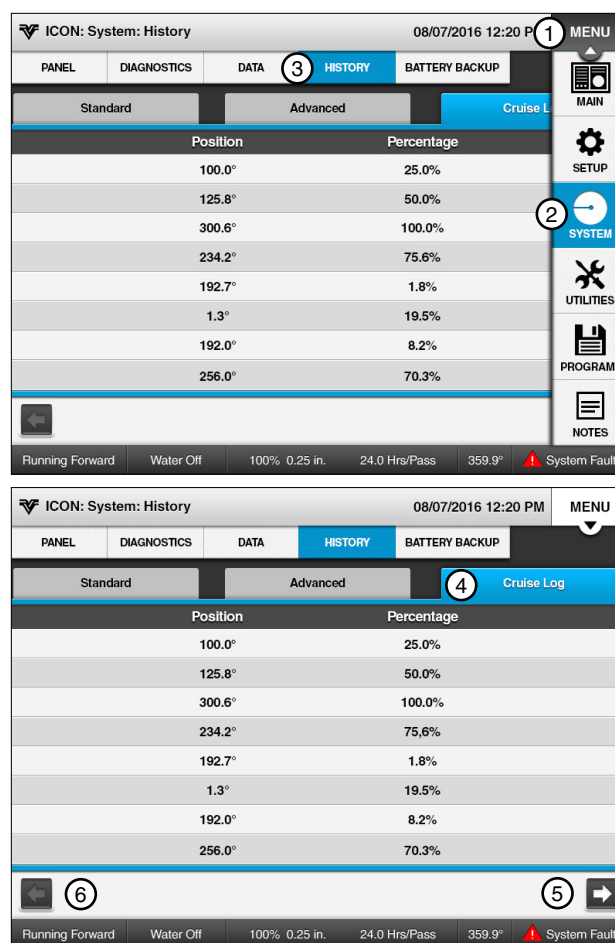

Figure 69-1
1. To view the Cruise Log, push **Menu, System, History, Cruise Log**. See Figure 69-1.